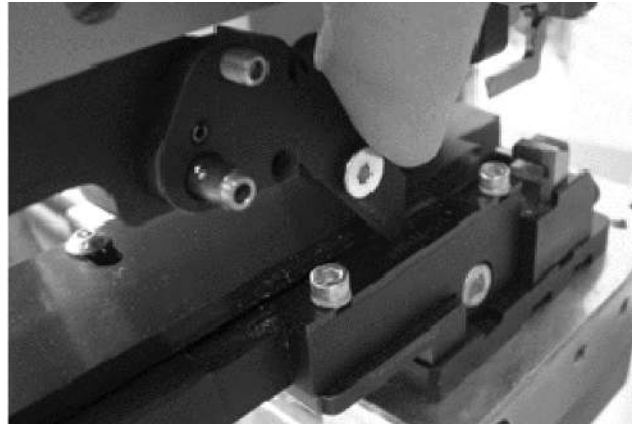

Figure 55
3. Install the feeder into the applicator as shown in Figure 55. Flip the feed finger down. For a side-feed applicator, make sure that the feed finger is positioned in the feed track groove. See Figure 55.